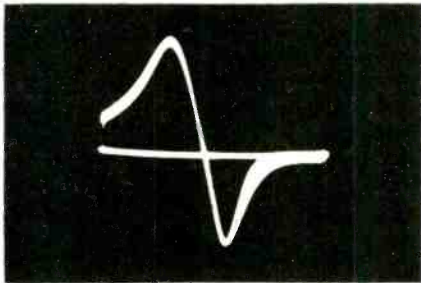

Fig. 2 — Ratio detector "S" curve.
A. Yes. Ratio detectors, unlike discriminators, have a high degree of AM rejection, which complicates the marking problem, as shown in Fig. 2. It is often helpful to modulate the marker, and adjust the ratio-detector transformer for minimum "wiggle" in the base line of the pattern.